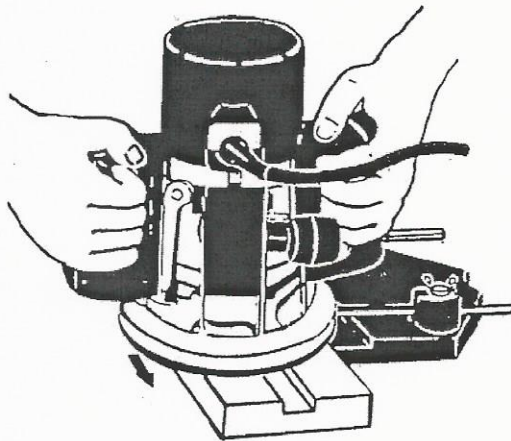

FIGURE 15
2. The Router base plate must always have a solid, level surface to ride on so that it won't rock on the workpiece. See Figures 15, 16 and 17 for examples of how to cut grooves.